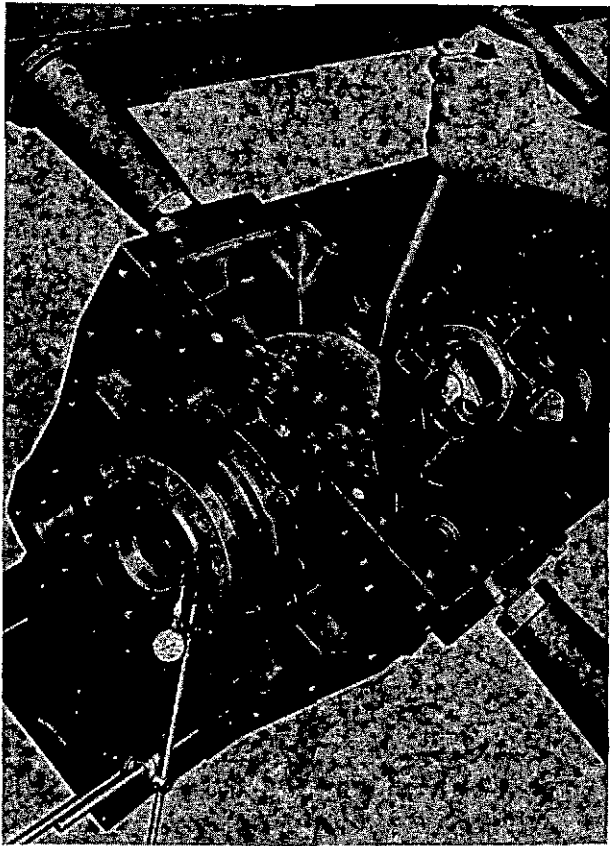

Fig. 6 Measuring crankshaft end float
- (f) Check that the crankshaft rotates freely, and measure its end float (fig. 6). Limits are 0.005 to 0.013 inch (0.13 to 0.33 mm).